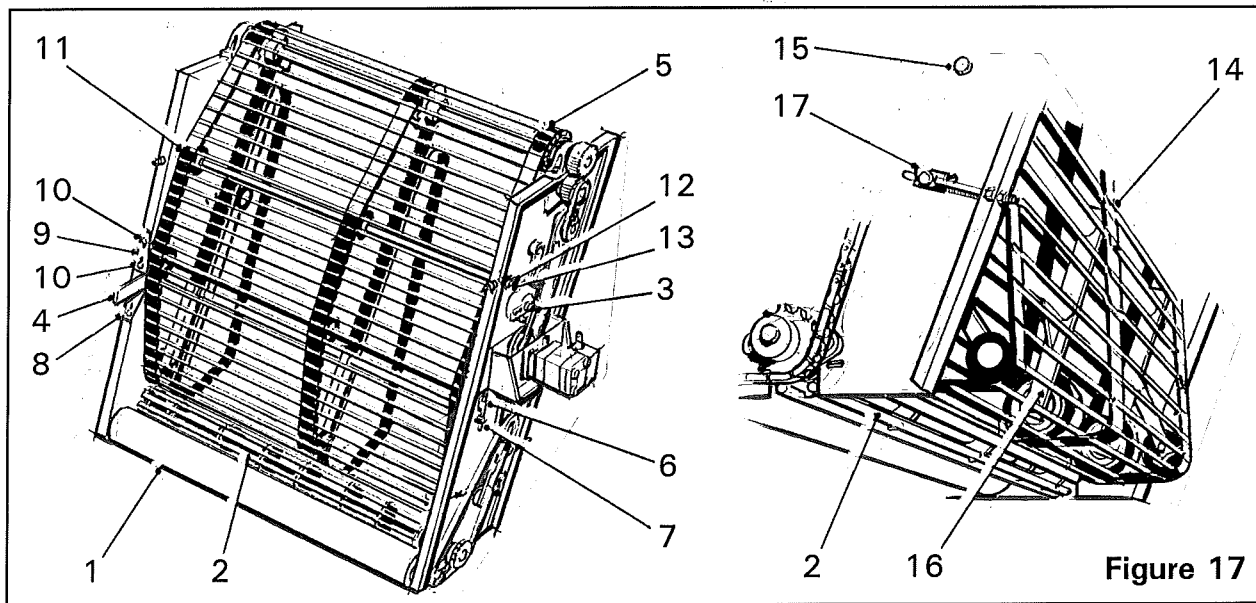

Figure 17
The lift web transfers the sugarbeet from the lifting wheels to the trash extractor. The sugarbeet pass over the trip roller (*item 1, figure 17*) and onto the cage feed roller (*item 2, figure 17*) where material such as stones, clod and trash pass through onto the ground. The beet are then elevated by means of two webs running in the same direction. The speed of the lift web can be increased or decreased by turning the control knob (*item 11, figure 26*).
The sugarbeet are trapped between the webs and, while travelling up the elevator, are cleaned by being able to rotate and move around. If more cleaning is required, the gap between the two webs can be increased to allow the crop to roll around even more thus removing more soil. To increase the gap, reposition the web carrying rollers (*item 3, figure 17*).
The top track frame (*item 4, figure 17*) is adjustable for varying crop conditions. As a general rule, the smaller the beet, the lower the top track frame should be set. This allows the front web (*item 5, figure 17*) to grip the beet rather than allowing them to fall and possibly block the lift web. Conversely, if the top track frame is set too low and the beet are large, the front web may have a tendency to force the beet back into the lifting wheels.
To adjust the top track frame, loosen the pivot screws (*item 6, figure 17*) and reposition the adjusters (*item 7, figure 17*). Two adjustable stops (*item 8 & 9, figure 17*) are provided to restrict the amount the frame can move. Too much forward movement may result in the web becoming entangled with the flippers, too little forward movement will restrict the beet from going between the two webs. The lower stop (*item 8, figure 17*) allows the operator to achieve the correct "throat" between the two webs. The larger the beet, the larger the "throat" should be. To adjust the stops, loosen the retaining bolts (*item 10, figure 17*) and slide the stops to the required position.
The front web (*item 5, figure 17*) is tensioned by three rollers (*item 11, figure 17*). The web should never be allowed to run slack. To tension the web, loosen the setscrews (*item 12, figure 17*) and reset the adjusters (*item 13, figure 17*).
The rear web (*item 14, figure 17*) is adjustable at the lower end to allow for repositioning of the web in relation to the cage feed roller (*item 2, figure 17*). The larger the gap between the two, the more clod and trash etc. can be removed. However, if the gap is too large it may result in beet loss. To adjust, loosen the setscrews (*item 15, figure 17*) and reposition the rear web roller frame (*item 16, figure 17*) by resetting the adjusters (*item 17, figure 17*).